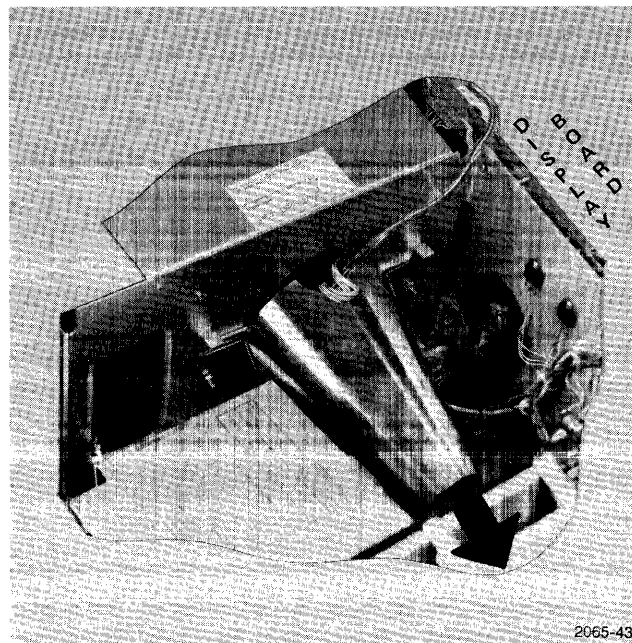

Fig. 3-25. CRT writing gun connector removal.
4. Remove the nine connectors to heatsinked transistors directly under the board, as well as all other connectors. The crt gun connector is an octal-type which is detached with a gentle pull on the wires that exit the rear of the crt neck shield (Fig. 3-25).